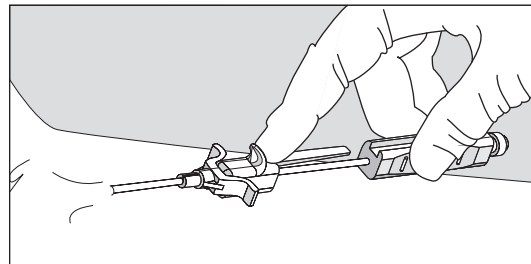

Figure 15
- Advance sharps-protected peel-away sheath over needle introducer into vein to a desired length by using index finger on push-off tab to stabilize needle protector while pulling back on needle hub until needle protector activates over needle bevel (refer to Figure 15).